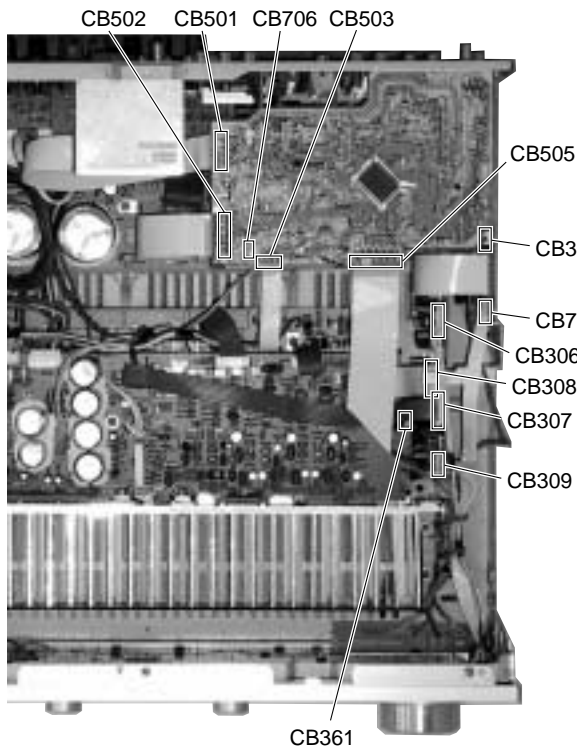

Fig. 10
FUNCTION (1) P.C.B.(Fig. 10)
FUNCTION (2) P.C.B.(Fig. 10)
CONVERSION (1) P.C.B.(Fig. 10)
POWER (1) P.C.B.(Fig. 10)
DSP P.C.B.(Fig. 10)